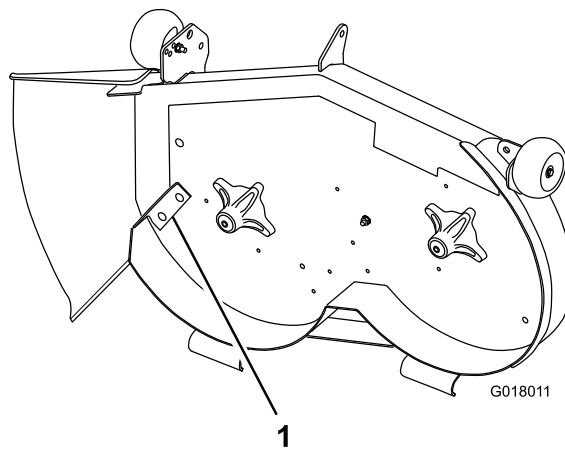

Figure 1
6. Locate the cutoff baffle at the side-discharge opening on the mower deck (Figure 1).